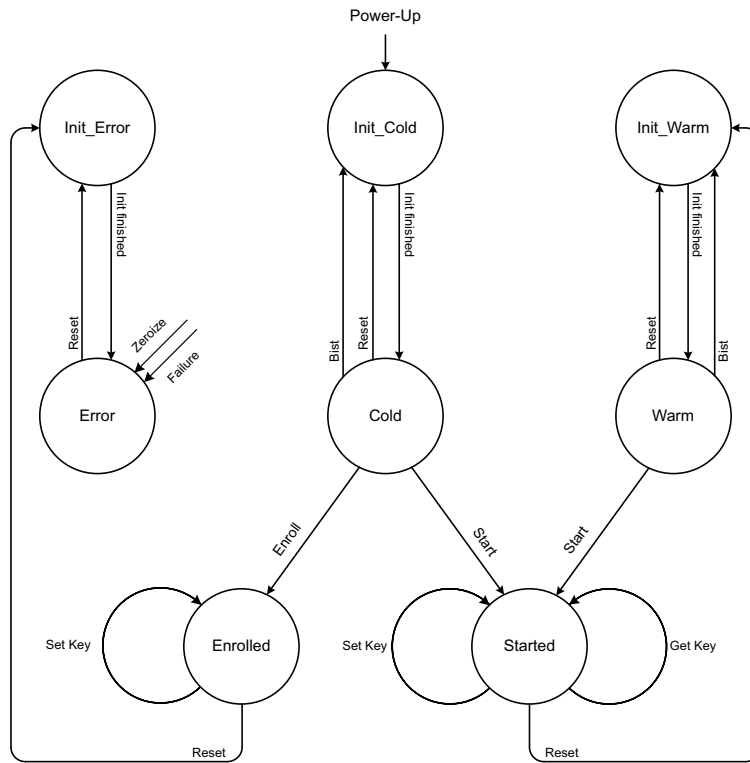

Fig 164. Possible flows, states, and actions
After power-up or reset the PUF controller starts in one of the three Init states, depending on its previous state. See Figure 164. It first initializes itself (indicated by BUSY = 1).
3. After the operation is finished, the PUF de-asserts BUSY and asserts SUCCESS, signaling that the Start operation has completed successfully. When ERROR is asserted, instead of SUCCESS, the provided activation code does not match the device. In this case, the PUF is moved to the Error state. See Figure 164 and Section 44.11.7.13 “Error response”.
3. After the operation is finished BUSY is de-asserted and SUCCESS is asserted. It indicates that the Get Key operation has completed successfully. If ERROR is asserted instead of SUCCESS, the provided key code does not match the device. In this case no key is provided and the PUF controller goes to the Error state. See Figure 164 and Section 44.11.7.13 “Error response”.